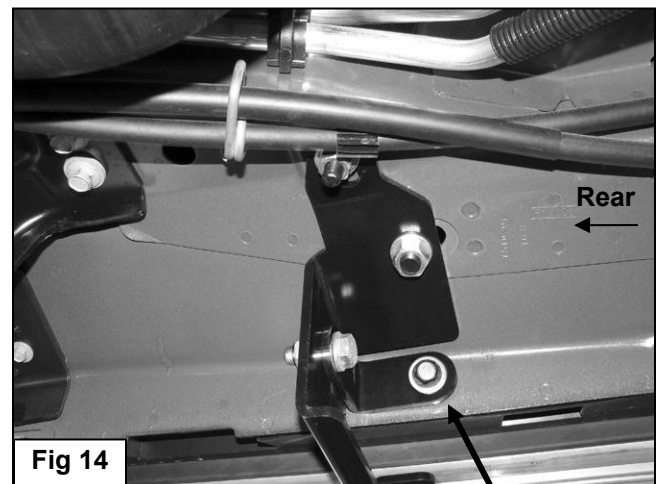

Fig 14
12. Move to the driver side rear Mounting Bracket. Hold the "L" Support Bracket firmly against the back of the pinch weld. Repeat **Steps 9—11** to mark and drill the pinch weld and install the Threaded Insert, **(Figures 12 & 13)**. Reinstall the Support Bracket. Bolt the Support Bracket to the Insert with (1) 8mm x 25mm Hex Bolt, (1) 8mm Lock Washer and (1) 8mm Flat Washer, **(Figure 14)**. Tighten the front and rear Bracket hardware only at this time.